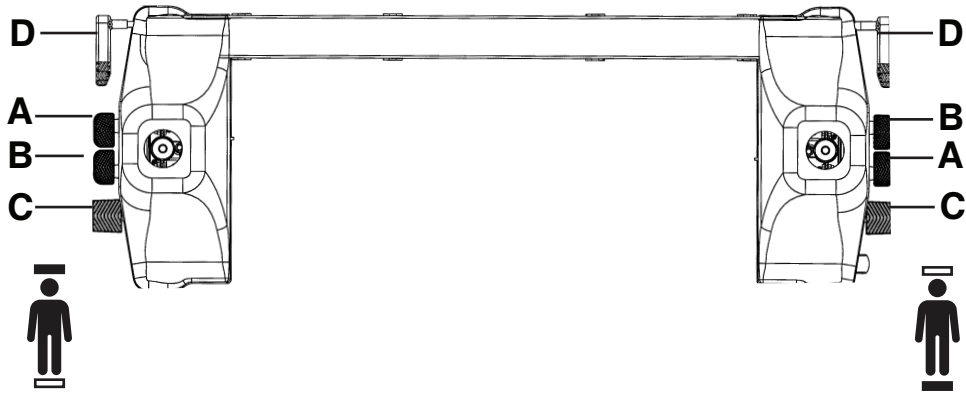

Figure 2 – Raising or lowering the litter
To raise the litter, press down on the pump pedal (C) (Figure 2).
To lower the head end of the litter (Trendelenburg), press down on the hydraulic release pedal (B) at either end of the product (Figure 2).